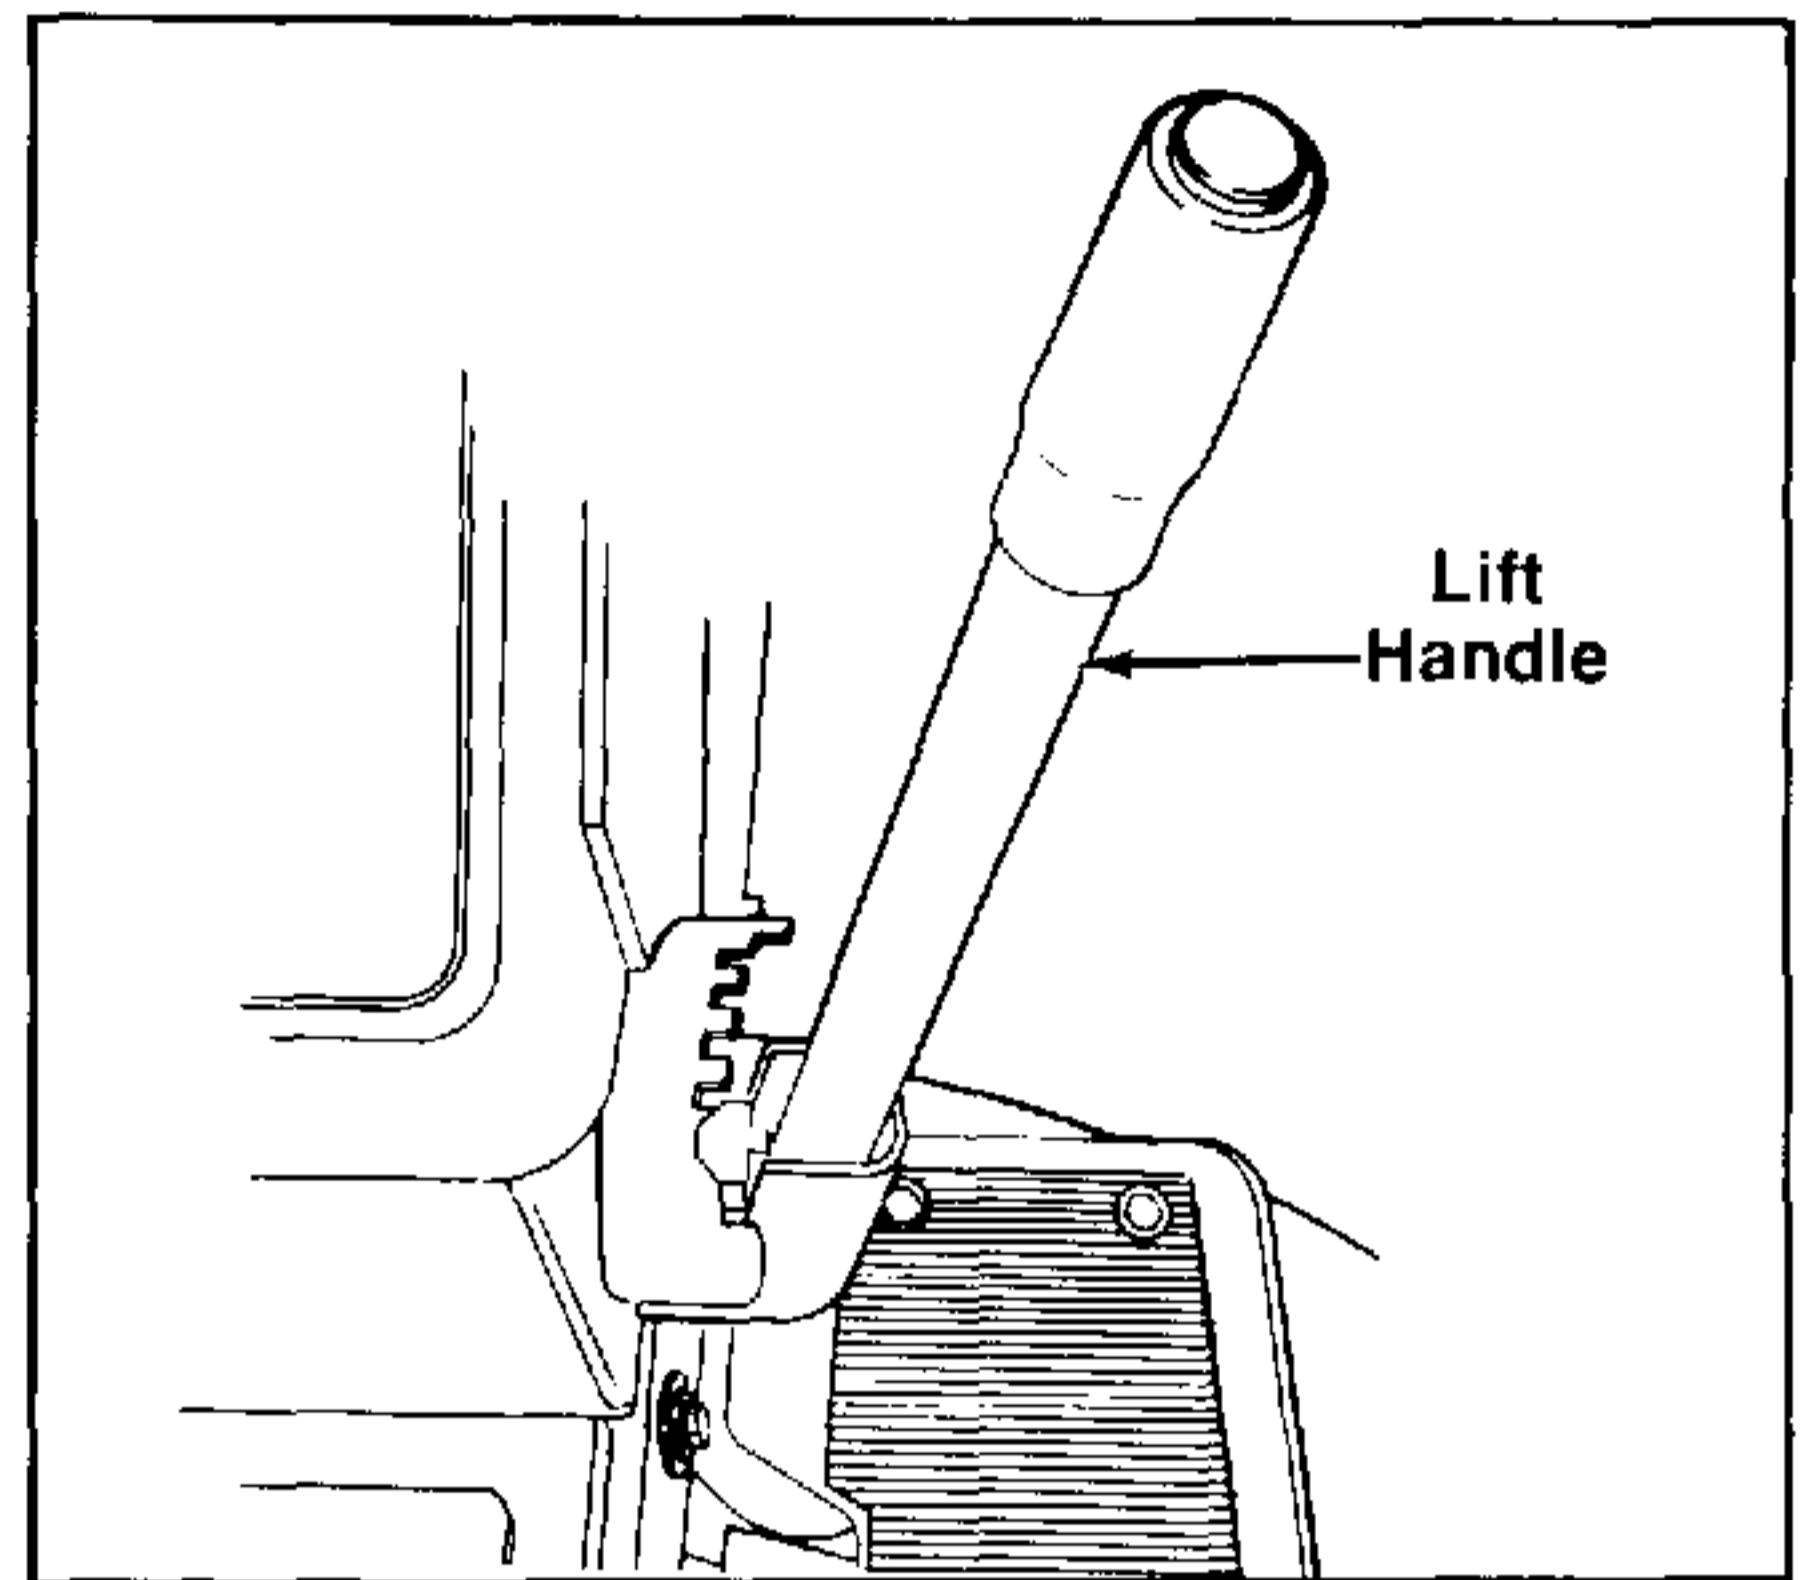

FIGURE 17.
2. Place the lift handle, figure 17, in position number 6.